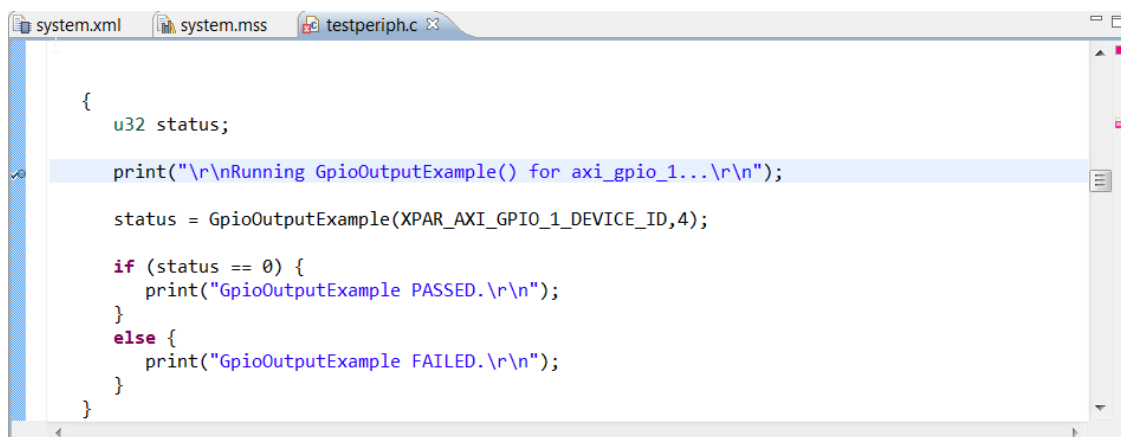

Figure 61: Add a Breakpoint
3. Double click on the left pane of line 104, which adds a breakpoint on that line of source code (Figure 61).